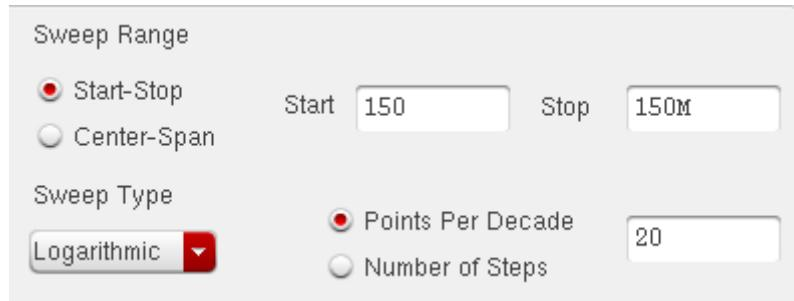

Figure 8.7: Sweep range for AC analysis
- In CIW, choose ac analysis, select sweep variable as `Frequency`, and mirror the settings shown in Fig.8.7 for specifying sweep parameters.
- In CIW, choose **ac analysis**, select sweep variable as **Frequency**, and mirror the settings shown in Fig.8.7 for specifying sweep parameters.